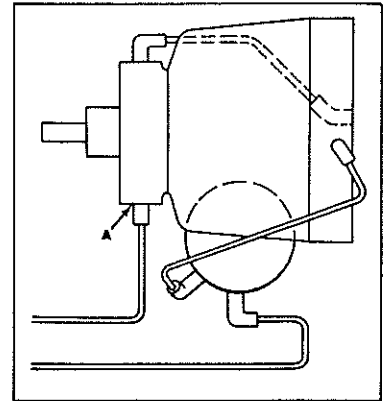

FIGURE 6-4
To check the hydrostatic pressure install the gauge into a tee hydraulic fitting between hydrostatic port (A) Figure 6-4 and existing hydraulic tube. Start engine and run for 5-10 minutes. At full R.P.M. the pressure reading should be 140 PSI  $\pm$  50 (964 kPa).